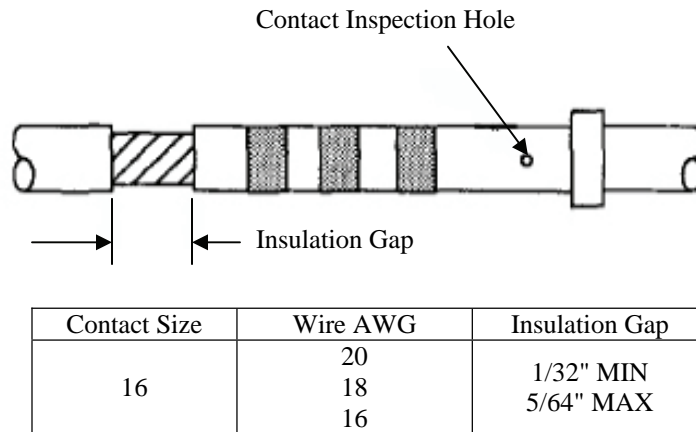

Figure 11. Insulation Gap
- c. Insert stripped wire into contact conductor barrel. Ensure all wire strands are inside contact conductor barrel and visible in contact inspection hole (Figure 11).
- d. If insulation gap is too large, trim conductor as required. If insulation gap is too small, trim insulation as required (Figure 11).